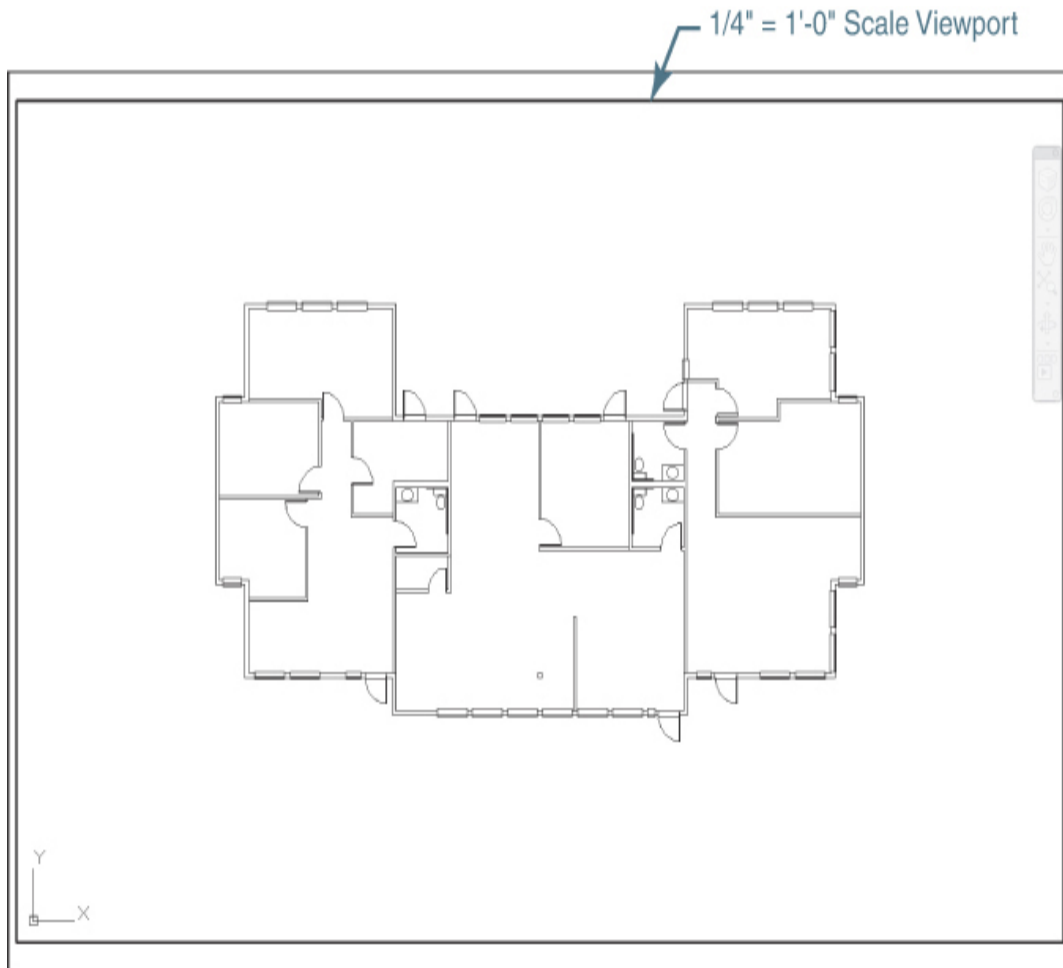

Figure 14-29
- 7 **Layout1** should now look similar to Figure 14-29. It now is 1/4" = 1'-0" scale drawing on a D-size sheet (36"